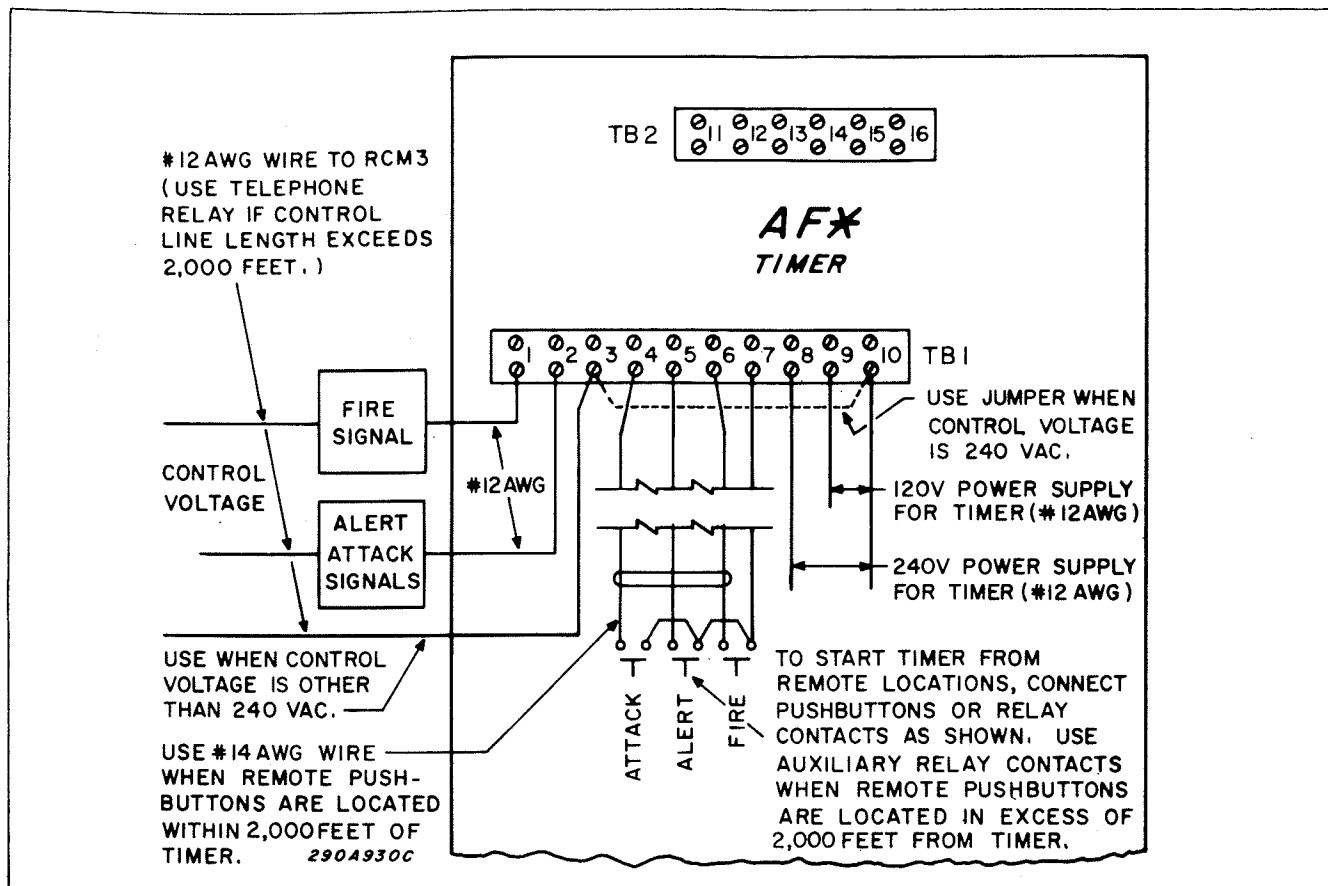

Figure 3-23. AF Timer Electrical Connections.
12. Install the AF Timer (see figure 3-23) or other control device. If it is desired to operate the timer by means of user supplied remote control pushbuttons such as Federal's SO or SS, install them at this time. If it is required to cancel a signal from a remote location, remove the jumper between TB2-15 and TB2-16 and connect the normally closed contacts of the switch or relay to TB2-15 and TB2-16 (see figure 5-15). If the length of the wires between the pushbuttons and timer exceeds 2000 ft. (610m) install a SPST telephone relay, such as Federal Model TRC*1020, between each pushbutton and timer.